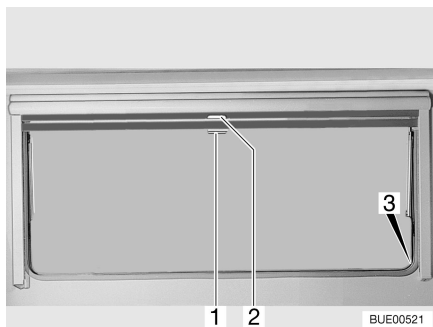

Fig. 23 Hinged window
- Pull blind at the handle (Fig. 23,2) downwards. If the blind is to be completely closed, it is suspended into the locking devices (Fig. 23,3) situated on both sides of the window frame.
- If the blind is completely closed: Press handle (Fig. 23,2) downwards and, at the same time, tilt it slightly inward. The blind can be taken out of the locking devices situated on both sides of the window frame.
- If the blind is in an intermediate position: Pull the handle (Fig. 23,2) slightly downwards until the locking device releases.
- Pull insect screen at the handle (Fig. 23,1) down and hang it into the locking devices (Fig. 23,3) situated on both sides of the window frame.
- Press handle (Fig. 23,1) downwards and, at the same time, tilt it slightly inward. The insect screen can be taken out of the locking devices situated on both sides of the window frame.